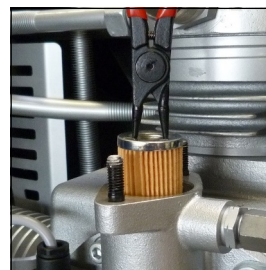

Fig. 3
- Remove spring and filter element (Fig. 3)
- Insert filter element (Fig. 3) **Attention:** Pay attention to the flow direction of the filter cartridge, bypass valve needs to be on top